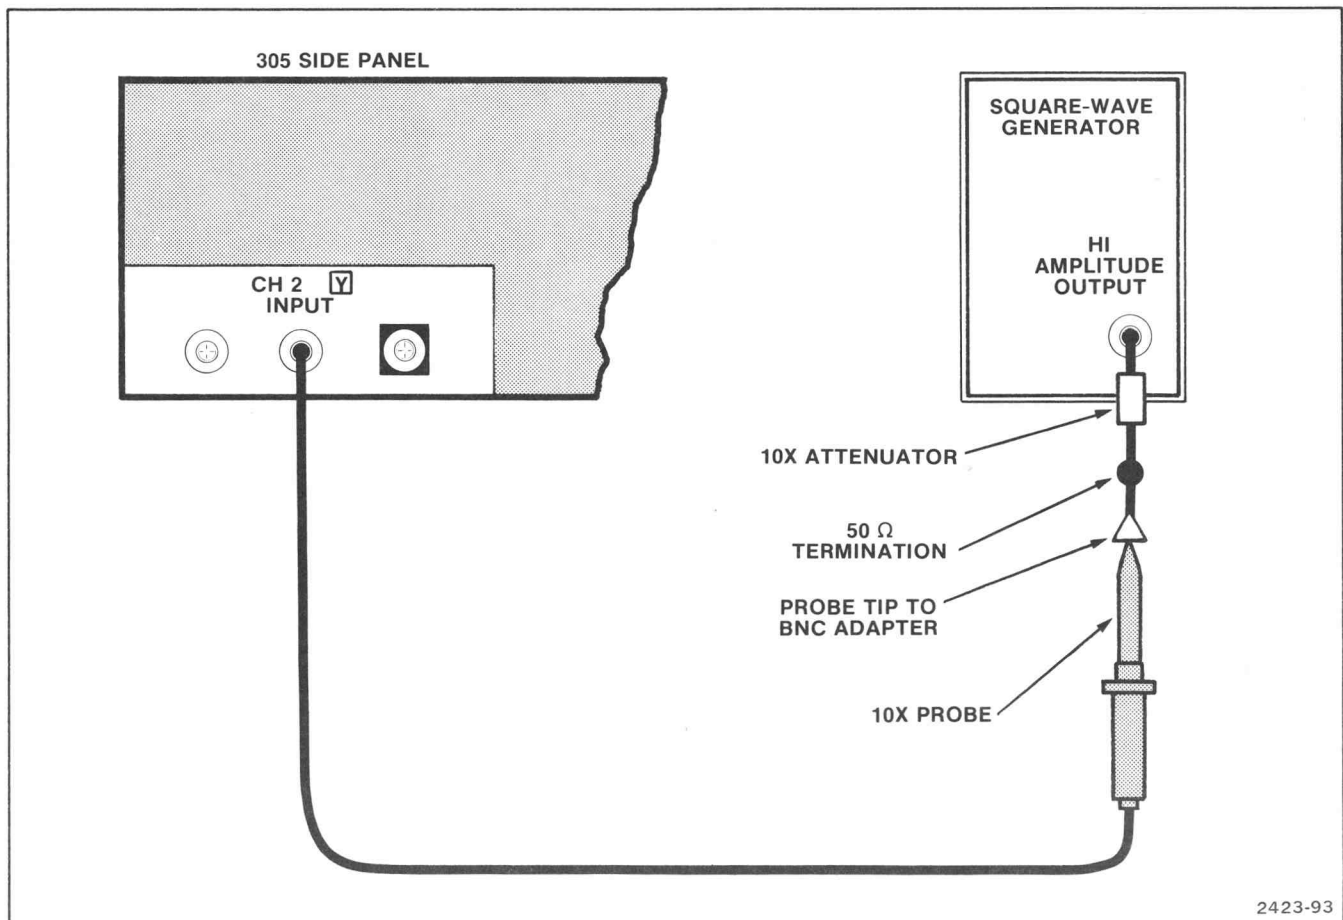

Fig. 6-5. Attenuator compensation test setup.
b. Connect a square-wave generator as shown in Fig. 6-5 and set the high amplitude output for a 1 kHz, 5 vertical division display (see NOTE above). Set Horizontal POSITION control to display the front corner of the waveform rising edge.